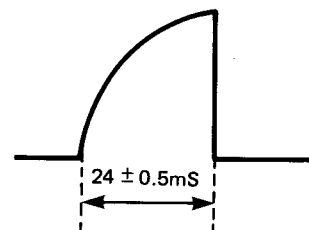

Figure 89.
4. Adjust R736 to obtain the value as shown. (Fig. 89)